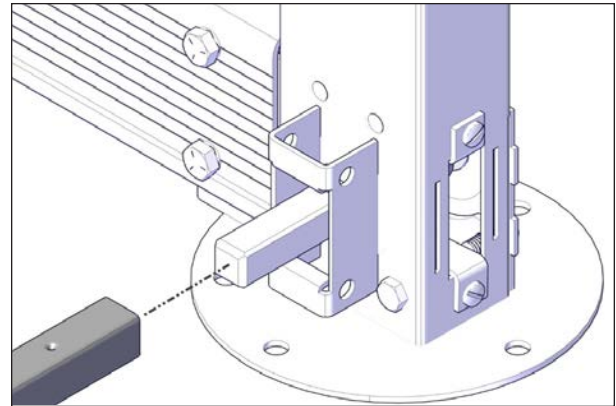

FIGURE 36: DRIVE SHAFT INSTALLATION
8. Slide the drive shaft over the square shaft located at the bottom of the left motor-side jack assembly, see Figure 36.